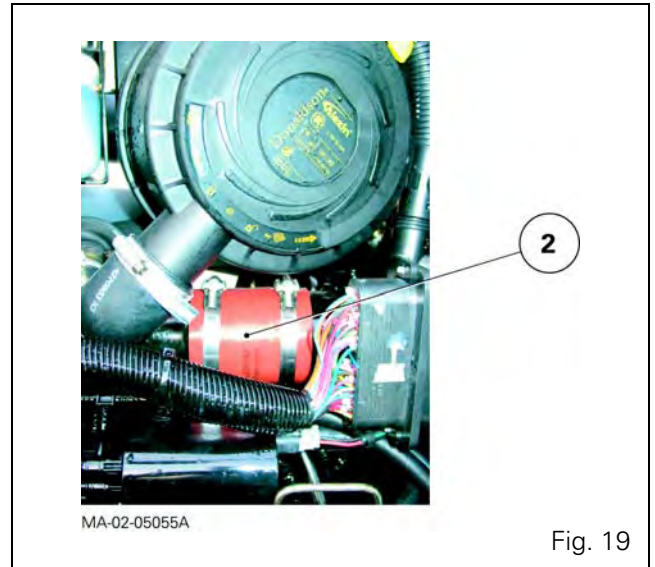

Fig. 19
42. If necessary, disconnect the air sleeve (2) from the cooler inlet (intake manifold inlet - Perkins EEM engine - Fig. 19).